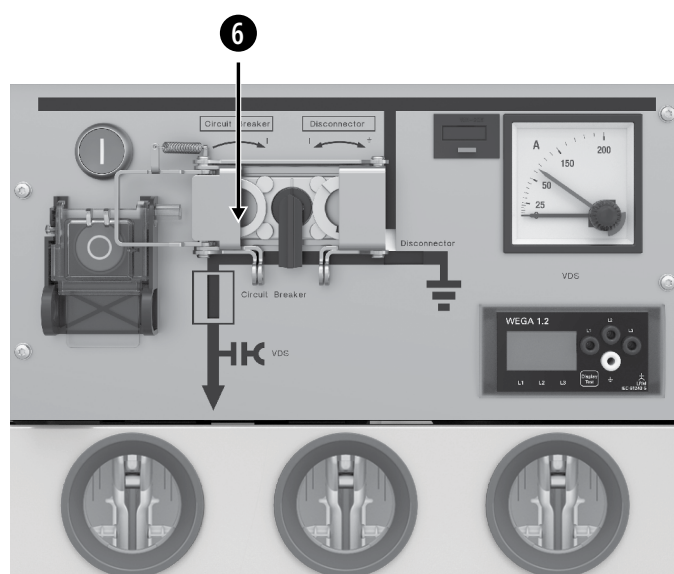
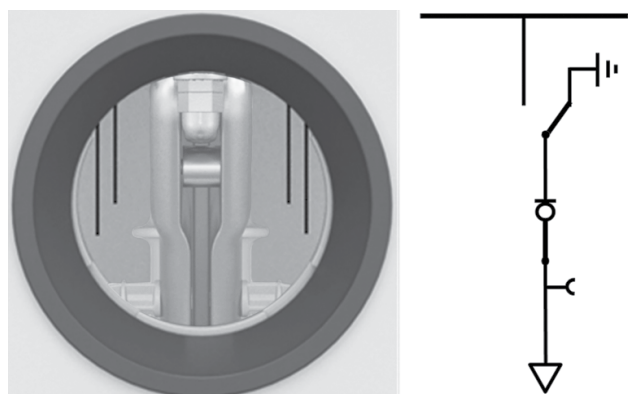

Figure 4-6: Panel in Earthed position
Figure 4-7: Earthed position - change-over switch in the Earth position and VI closed
- Figure 4-6 shows the change-over switch in the earth position; figure 4-7 shows the busbar position observed from the inspection window;